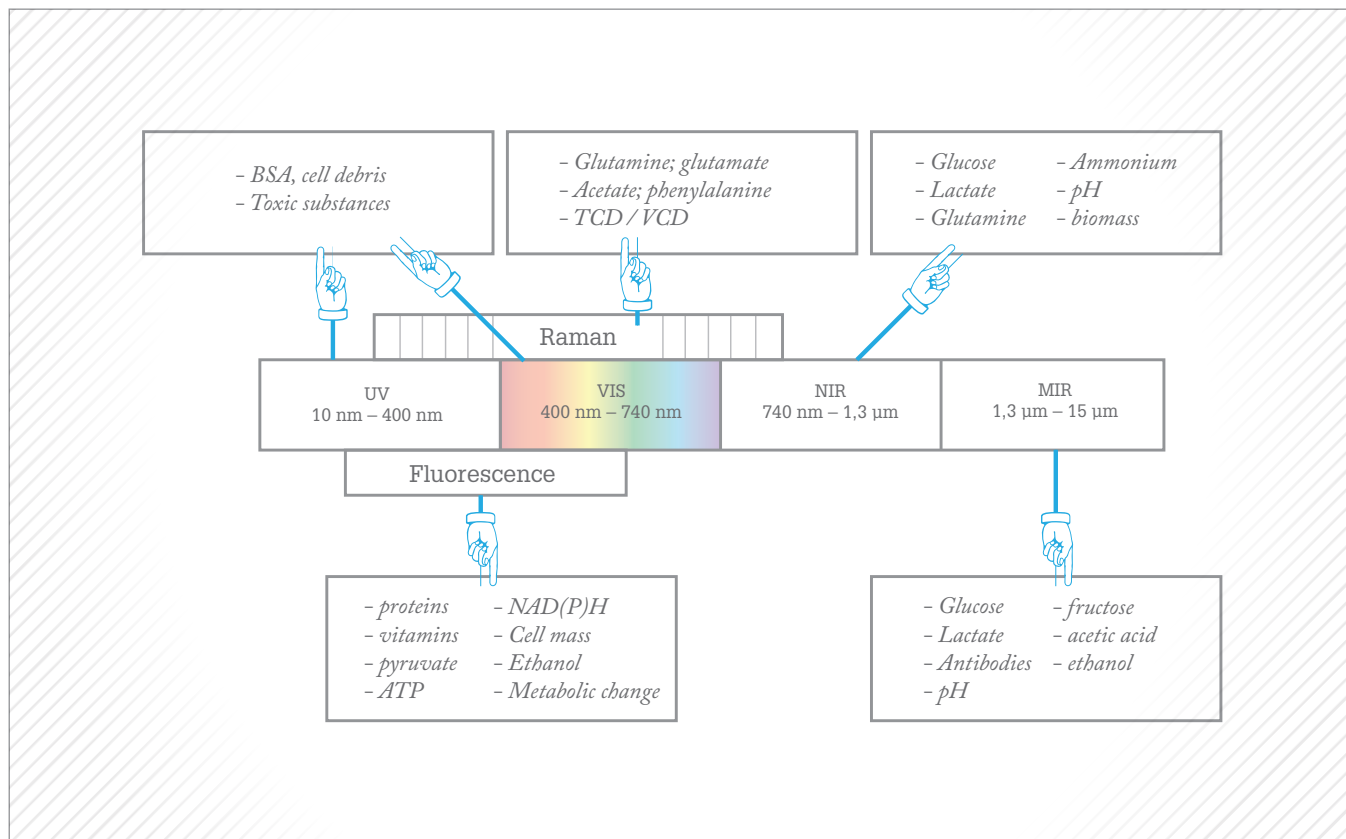

Figure 1: Spectral range for bioprocess monitoring with accessible variables.
and pO_2 measurements in steel bioreactors, using standard ports. For disposable bioreactors, optical chemosensor systems – also called optodes – can be used for those variables. Optodes are based on the interaction of a matrix-embedded indicator and the analyte (3) and can be pre-sterilized within the disposable containers by γ -radiation and can be connected to optical fibers via transparent materials, such as glass. Such optical chemosensors are used to monitor chemical variables, but for nutrients and other biological variables, spectroscopic measurement is recommended. Common spectroscopic methods for bioprocess monitoring are focused on the spectral range from UV to MIR, including fluorescence and Raman spectroscopy. Various bioprocess variables can be measured in different spectral ranges (4–16) (see Figure 1).